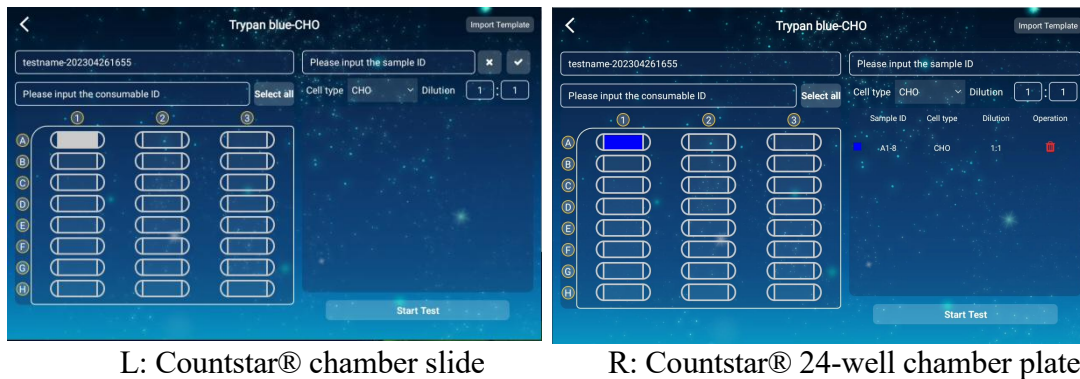

Fig2.15 Test parameter settings user interface
2.3.4 Before performing each test, the user has to select and input the relevant information for the test cycle (composed of chamber selection, Sample ID, dilution rate) in the user interface of Test parameter settings (**Fig. 2.15**).